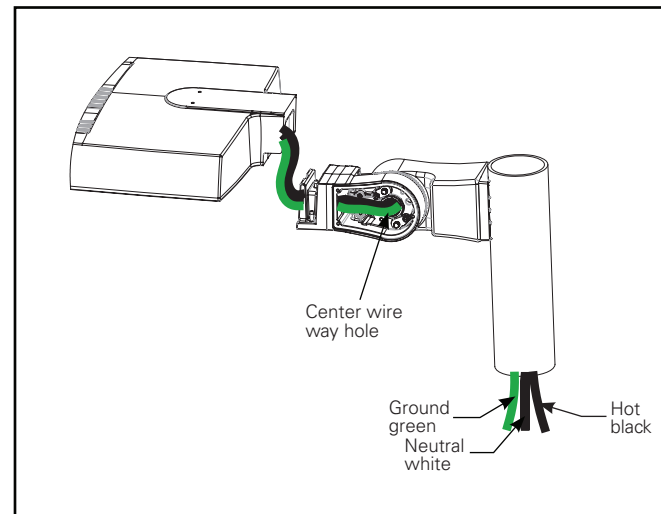

Figure 3.
6. Support luminaire while lowering it on to mounting arm cleat feature and thread fixture power supply leads through opening into mounting arm cavity. Allow luminaire to rest fully on cleat feature. Continue to route luminaire power supply lead through center wire way hole leading into pole arm cavity. Allow luminaire to rest on cleat feature (Figure 3.).